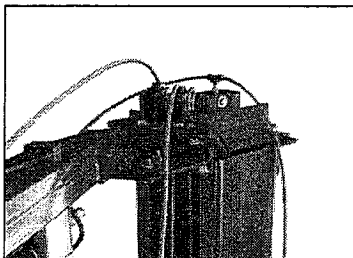

Fig. 24
2. Line the cables through the cable dolly on the top, then down to the bottom of the column. (Fig. 24)